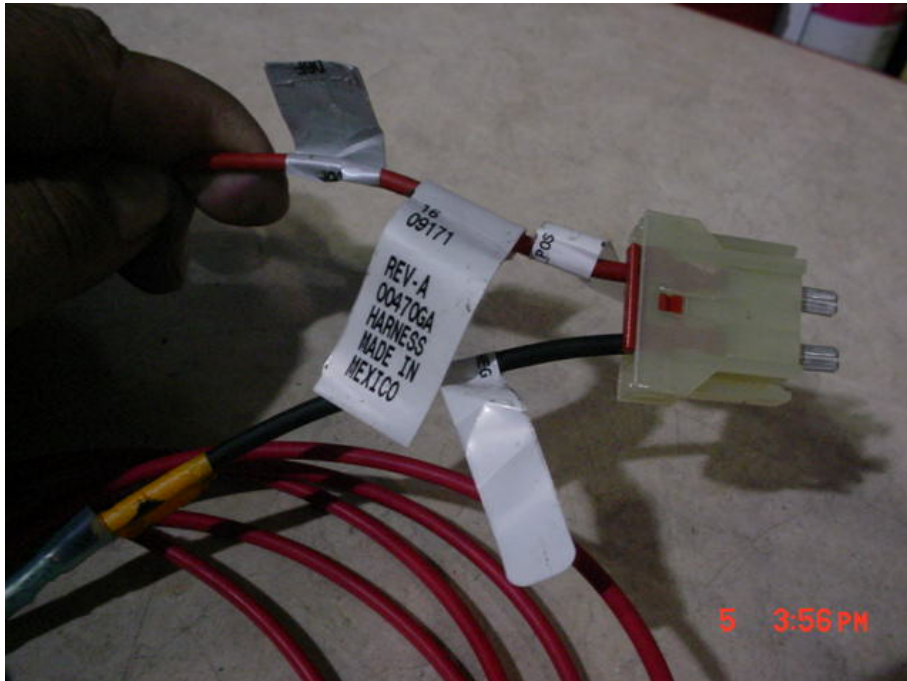

Figure 13 – Pigtail #7
2. Locate the pigtail labeled "7". See Figure 13.